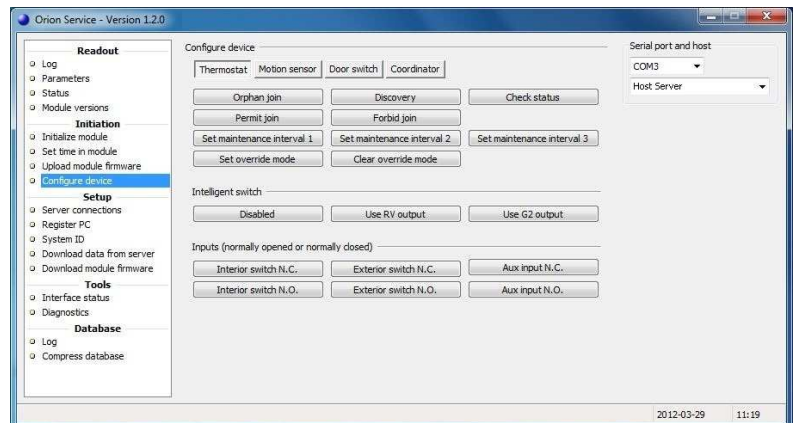

Figure 25
4. In the Orion Service software (go to **Start/Programs/Orion Service/Orion Service**), choose **Configure device** in the left pane of the window. Let the tab **Thermostat** (default) be open and click the **Discovery** button; see Figure 25. The thermostat will connect to the open gateway/router.